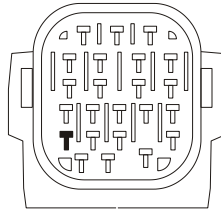

Figure 4.3
- ☐ Locate the 23 pin connector near the shift mechanism on the driver's side of the transmission. Solder and seal the long blue wire from the throttle control to the yellow wire with the dark blue stripe (Figure 4.3). This wire should show 0 Volts in Park or Neutral and approximately 12 V in all other gear selections when tested with a multi-meter.